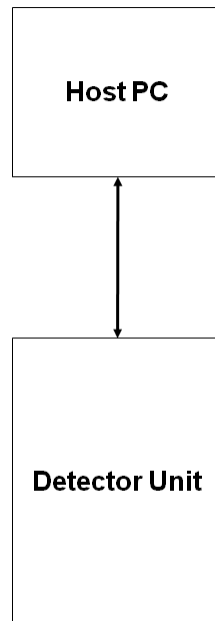

Fig. 3.4: Configuration of a Small OpenPET System.
A Detector Unit (DU), as shown in Fig. 3.2 consists of a Support Crate with between one and eight Detector Boards plugged into slots 0-7. Each Detector Board can process up to 16 or 32 analog input signals. A Detector Unit can therefore process up to 128 or 256 analog signals, which corresponds to 32 or 64 conventional block detector modules (with 4 analog outputs per module). In a Small System (Fig. 3.4), Slot 8 is empty (if data is transferred to the Host PC through USB or Ethernet via the Host PC Interface Board plugged into Slot 9). In a Standard (Fig. 3.5) or Large System (Fig. 3.6), a Coincidence Interface Board must be plugged into Slot 8 of the Detector Unit. There are two versions of the Coincidence Interface Board: Coincidence Interface Board-1 (CI-1) for the Standard System and Coincidence Interface Board-8 (CI-8) for the Large System. At present, the Coincidence Interface Board-8 has not been designed or specified. These boards transfer event data and bidirectional control data between the Detector Unit and a Coincidence Unit.
If the total number of Detector Boards is 8 or fewer, you can use a Small System (Fig. 3.4). This consists of a single Detector Unit (defined in *Detector Unit* (page 7)) connected to a Host PC. A Detector Unit (DU) can have anywhere between 1 and 8 DBs plugged into it. The initial estimate of the number of DBs in your system may need to be increased to support the camera topology. In the Small System, the default coincidence processing algorithm searches for coincidences between singles events that originate on different DBs, but it doesn't allow coincidences between singles events that originate on the same DB. Thus, more DBs may be necessary to allow all the desired coincidences, as none of the modules in a DB can be in coincidence with each other.
The Support Board is shipped with the board receiving its system clock locally as set by a jumper J10 shorting pin 1 and 2 as shown in Fig. 4.3a, which is the setting for a Small System SB (i.e., DU in Fig. 3.4) and the master SB in a Standard System (i.e., CU in Fig. 3.5). The slave SB in a Standard System (i.e., DUs in Fig. 3.5) will need the jumper J10 shorting pin 2 and 3 as shown in Fig. 4.3b, which set the SB to receive its system clock from the CU instead of locally.